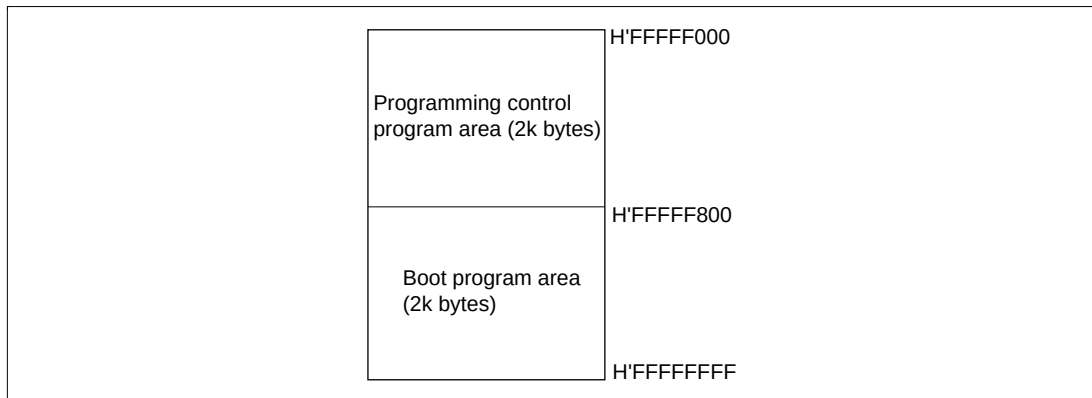

**Figure 22.11 RAM Areas in Boot Mode**
**On-Chip RAM Area Divisions in Boot Mode:** In boot mode, the RAM area is divided into an area used by the boot program and an area to which the programming control program is transferred via the SCI, as shown in figure 22.11. The boot program area cannot be used until the execution state in boot mode switches to the programming control program transferred from the host.